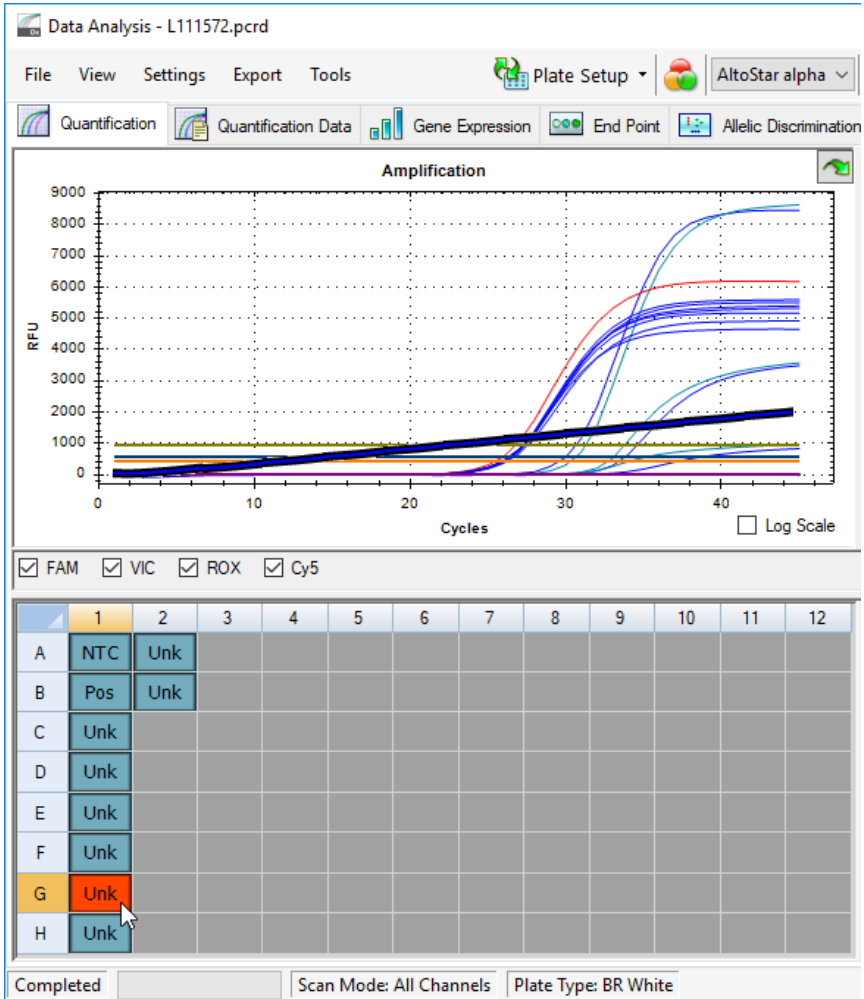

Figure 6: Data Analysis window: irregular PCR signal
- Identify wells with irregular PCR signals (linear signal increase, signal spikes, etc.) in any of the FAM™ (VZV target), VIC™ (IC), Cy5 (HSV-2 target) or ROX™ (HSV-1 target) detection channels (see figure 6).